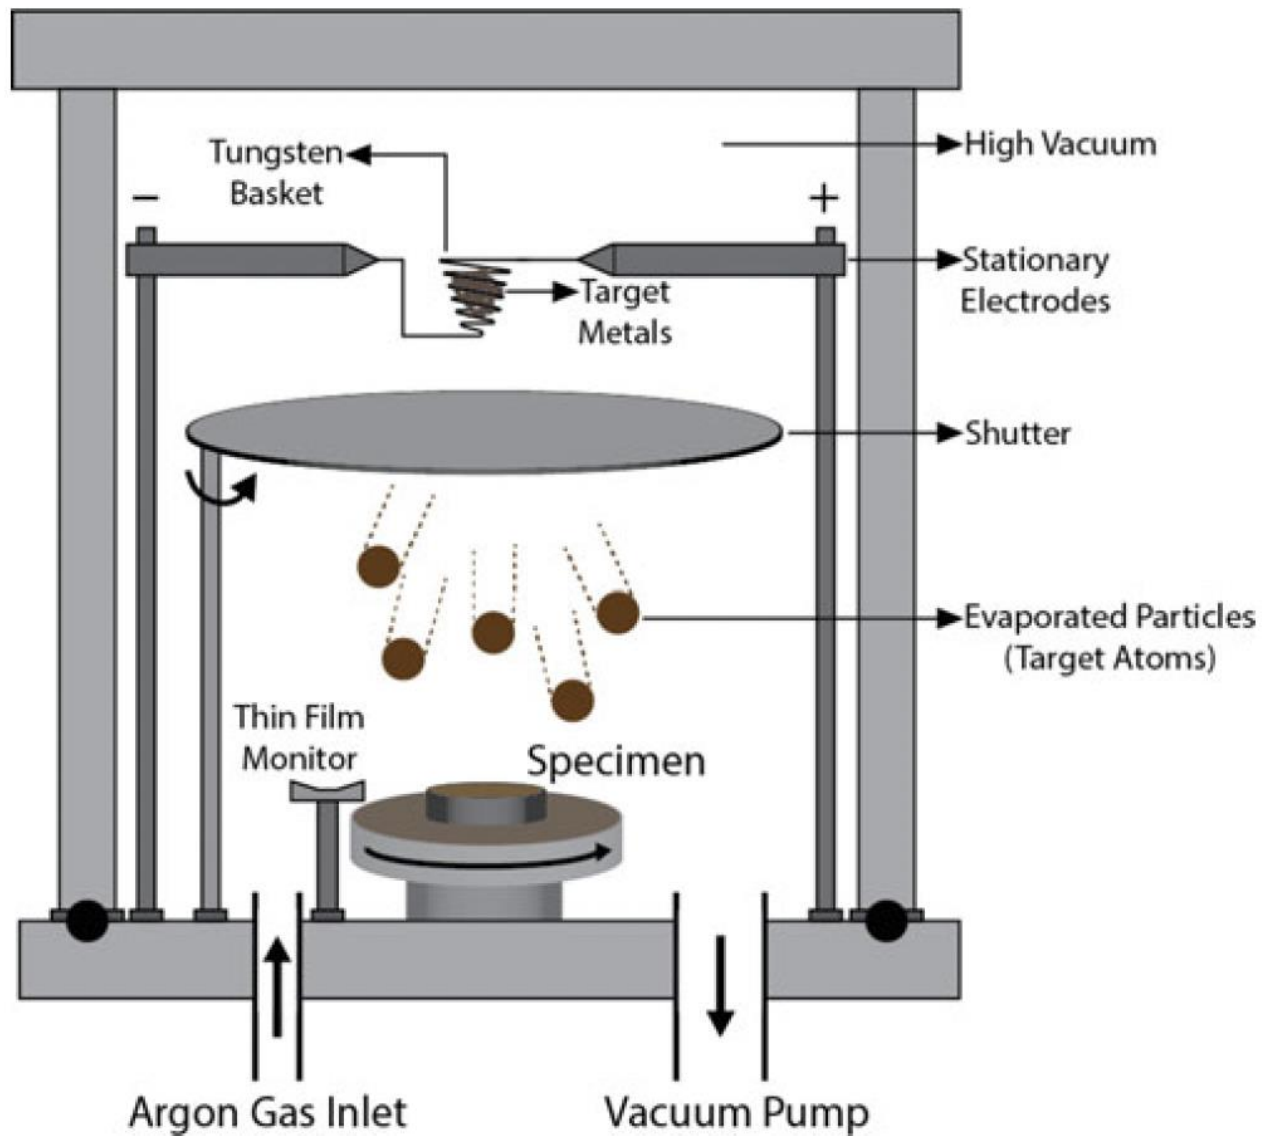

Fig. 8.7 Schematic representation of vacuum evaporation method for coating samples [1]
- Uap logam menyebar ke seluruh chamber dan melapisi permukaan sampel (lihat Fig. 8.7).